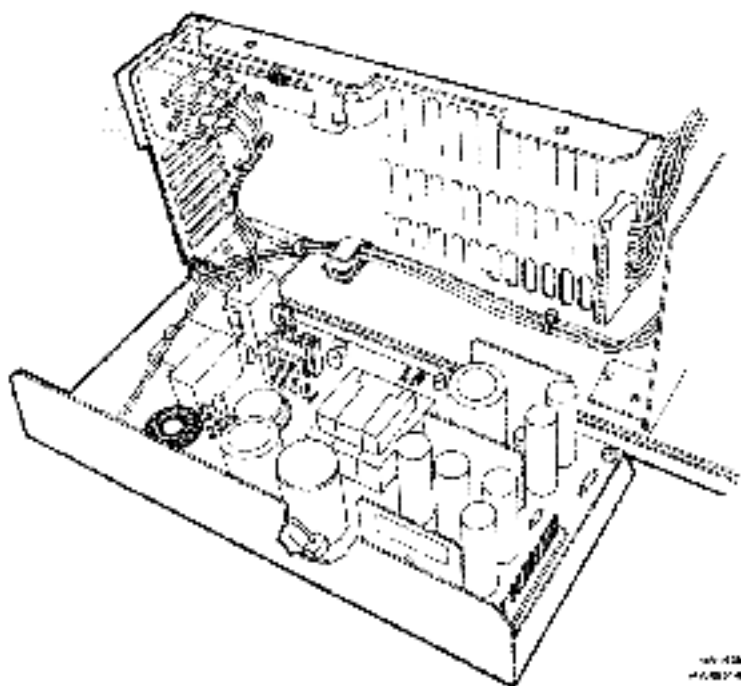

Figure 4-10 Power Supply, Component Side View
4. Disconnect the dc power connector on the back of the power supply (Figure 4-10).